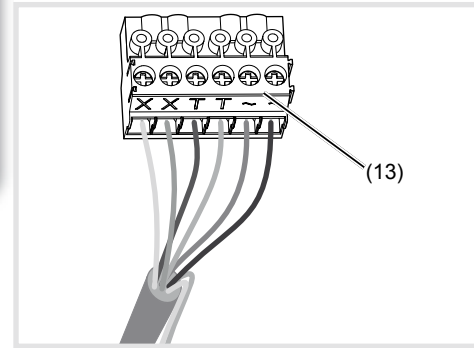

Figure 5: Wired connection terminal block
- Pull off connection terminal block (13) from the device.
- Connect the wire pair of the 2-wire bus cable to the terminals **XX** of the connection terminal block (Figure 5).
- Connect door release to the terminals **TT** of the connection terminal block (figure 5 and 6) if required.
- For call push-button backlighting and camera heating connect 12 V~ lead from the power transformer to the terminals **~** of the connection terminal block (Figure 5 ... 7).